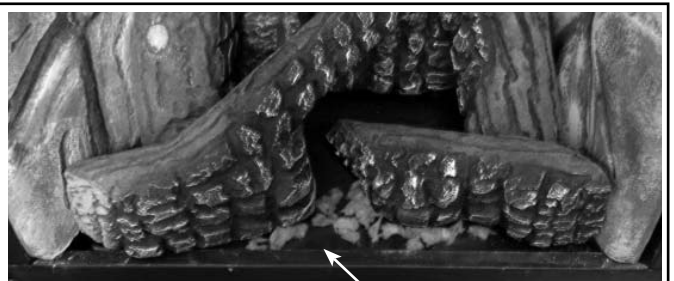

Figure 49 - Ember Placement **DO NOT** place ember material directly over the ember burner ports.
6. Ember Placement - Separate the Embers (rockwool) into pieces about the size of a quarter (see Figure 43). Keep the pieces fluffed up, not matted. Distribute these pieces over the surface of the burner, as shown in Figure 49. Do not use more than is necessary. **Ensure that the main burner ports remain uncovered by the ember material (see Figure 43).**